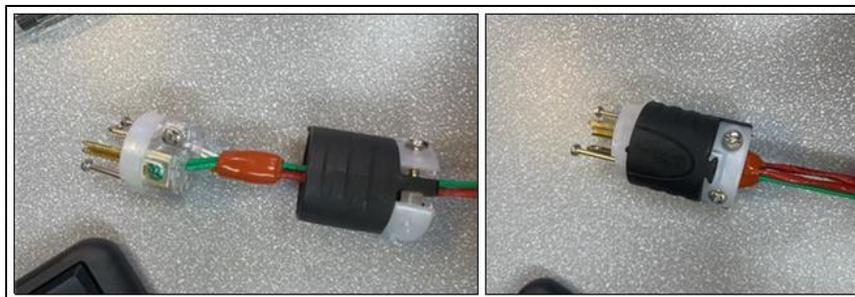

Figure 8.4. Example circular plug during assembly with cable routed through the clamp and cover assembly and wires terminated in contact assembly.
4. Assemble: If needed add SFT to increase the diameter of the cable to accommodate Cord Grip refer to § 4.2. Slide the cover assembly up the cord and over the contact assembly. Tighten and torque screws on the face of the conductor assembly, attaching the body to the cover, then tighten and torque the cord clamp screws. Refer to Figure 8.4.